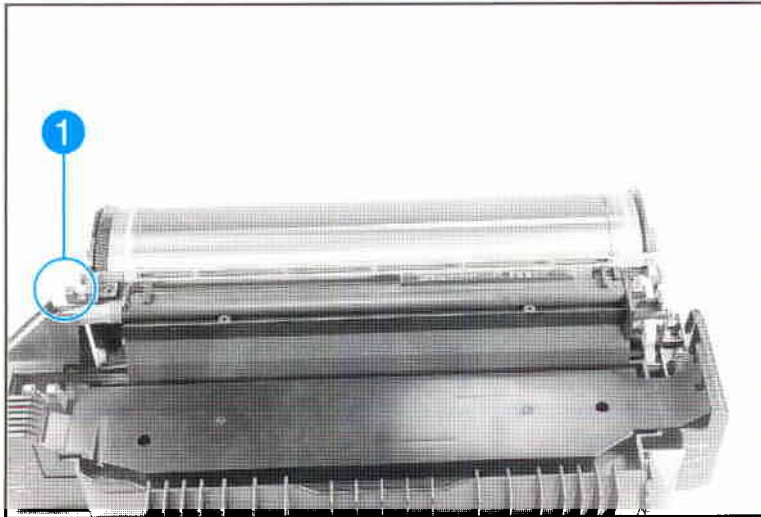

Figure 7-8 Neutralizing Corona Contacts
3. If the message persists, check the Neutralizing Corona contact for damage or contamination (see Figure 7-8, item 1).